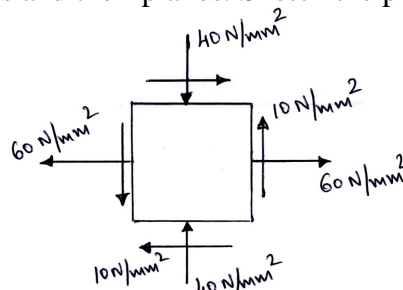

Fig.Q.3(b)
- b. A plane element is subjected to stresses as shown in Fig.Q.3(b). Determine principal stresses, maximum shear stress and their planes. Sketch the planes determined. (10 Marks)